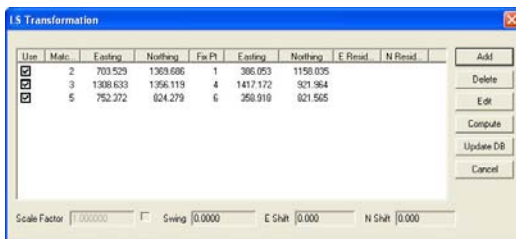

Figure 12-48. Transformation Panel
5. Repeat steps two to four until you have selected all of the required points. The coordinate information is updated in the Transformation panel (Figure 12-48). For a description of the Transformation fields, see Table 12-14 on page 12-43.